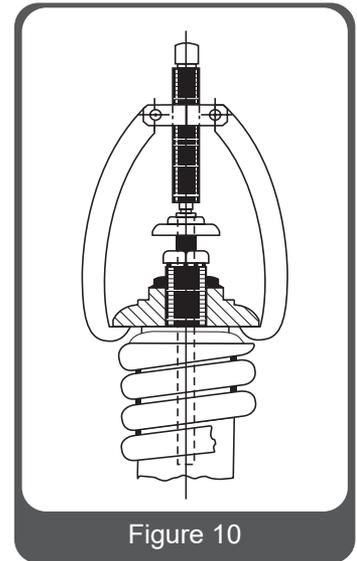

Figure 10
2. Center the test gag screw in the exposed end of the spindle and hook the legs of gag under the sides of the yoke as shown in Figure 10.